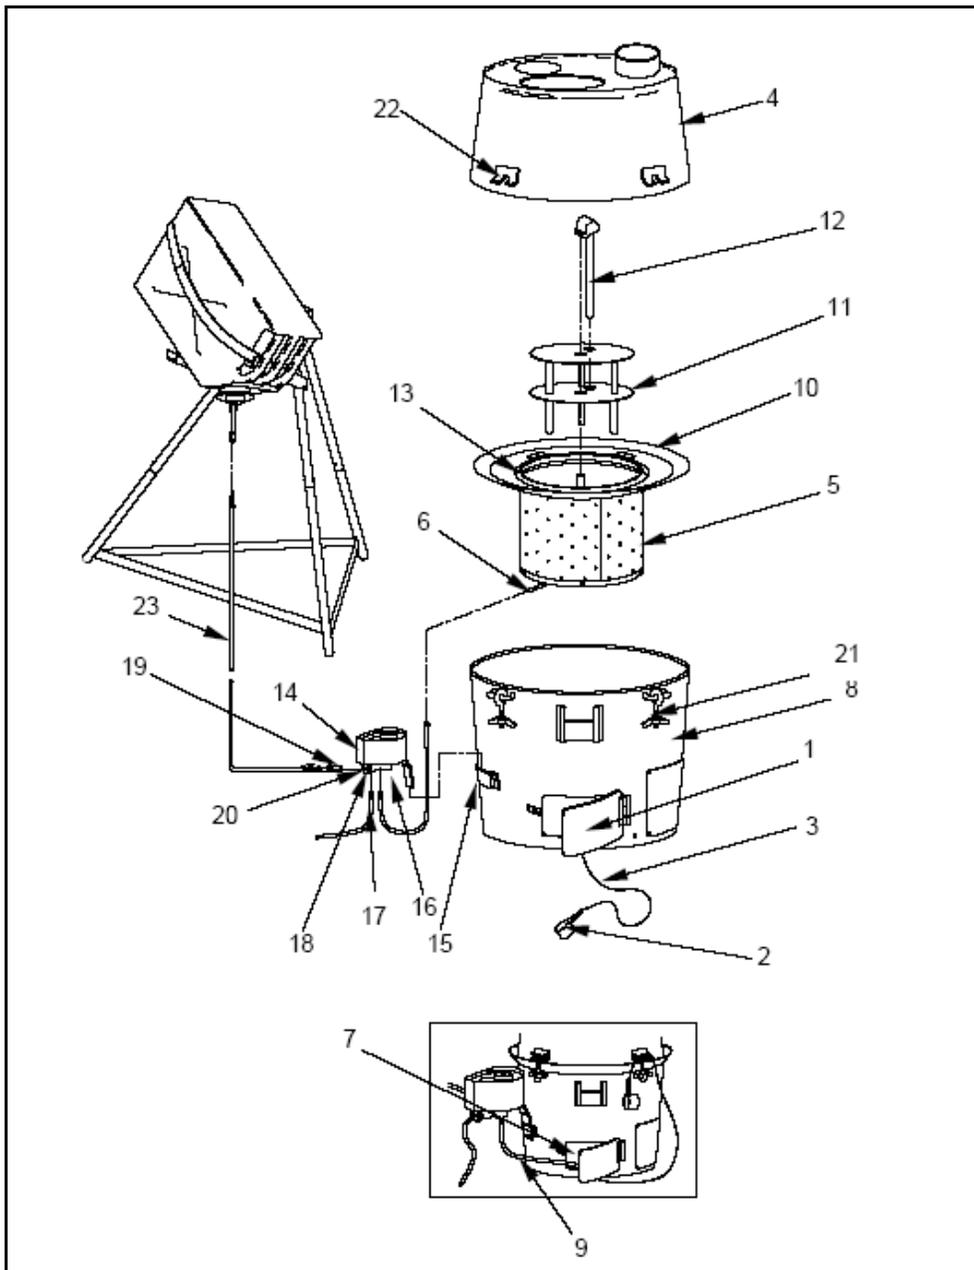

Figure 13
- a. Install and assemble the heater. Figure 13
(1) To prepare the H-45 Type II (Liquid Fuel) Heater for operation (after the protective film has been burned off), place the heater on the ground under a tent stack shield opening. If used on top of a tent floor, the heater must be set on a bed of sand or placed on three or four bricks. Level the base by eye. NWTC uses a sawed off 55 gallon drum with dry sweep as a base.
(2) Open the front base heater door (1), pull the priming cup (2) on the retainer wire (3) out of the heater body base until the wire is fully extended, and set aside.
(3) Remove the top heater shell (4) from the heater body base (8) by loosening the wing nuts on the bolt and wing nut assemblies (21) and sliding them out of the brackets (22) on the top heater shell (4). Set the top heater shell (4) aside. If not already done, remove all the components stored inside the heater.
(4) Replace the burner shell assembly (5) in the heater body base (8). If necessary, rotate the burner shell assembly (5) to ensure that the pipe nipple (6) aligns with the left side of the front base heater door opening (7) in the heater body base (8). Pull the flow control burner hose (9) through the front base heater door opening (7). The burner shell assembly (5) and adapter ring (10) welded to its top must be level and fully engaged all around the circumference of the heater body base (8).
(5) The superheater (11), burner cap assembly (12), and high fire ring (13) are all installed when shipped. Ensure that these parts are in place as illustrated.
(6) Insert the fuel flow control valve (14) into the bracket holder (15) on the heater body base (8).
(7) Attach the free end of the flow control burner hose (9) to the flow control outlet (16) on the bottom of the fuel flow control valve (14). To do this, pull back on the female Quick Disconnect (QD) fitting on the end of the flow control burner hose (9), insert it on the flow control outlet male QD fitting, and release the female QD fitting. Gently pull on the flow control burner hose to ensure the connection is secure.
(8) Attach the female QD fitting on the fuel overflow hose (17) to the fuel overflow male QD fitting (18) on the fuel flow control valve (14). To do this, pull back on the female QD fitting on the fuel overflow hose (17), insert it on the fuel overflow male QD fitting (18) on the fuel flow control valve (14), and release the female QD fitting. Gently pull on the fuel overflow hose to ensure the connection is secure. Set the free end of the fuel overflow hose aside.